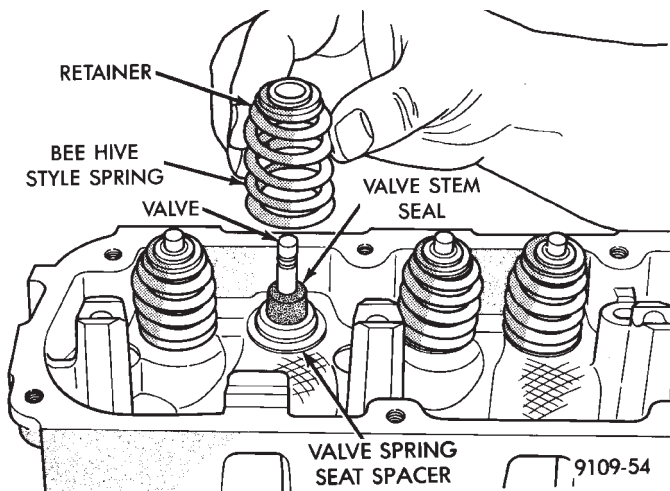

Fig. 25 Installing Valve, Cup Seal, Spring and Retainer
(1) Lubricate tappets.
(2) Install tappets in their original positions.
(3) With roller tappets, install aligning yokes with (Fig. 25).
(4) Install yoke retainer and torque screws to 12 N•m (105 in. lbs.) (Fig. 25).
(5) Install cylinder heads. Refer to cylinder head installation of this section for procedure.
(6) Start and operate engine. Warm up to normal operating temperature.